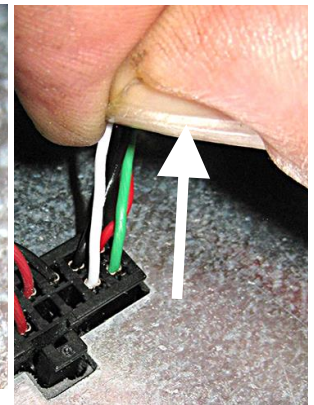

Figure 51
58. Gently tug on all wires to ensure they are locked into the connector (see Figure 51).